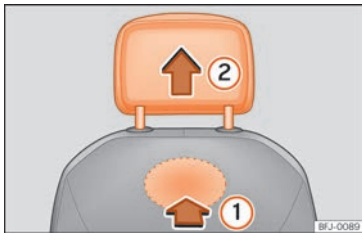

Fig. 113 Front headrest: removal.
- To unlock it, look for the rabbit on the bottom of the backrest and press in the direction of the arrow »» Fig. 113 ①.
- Remove the headrest in the direction of the arrow ②.